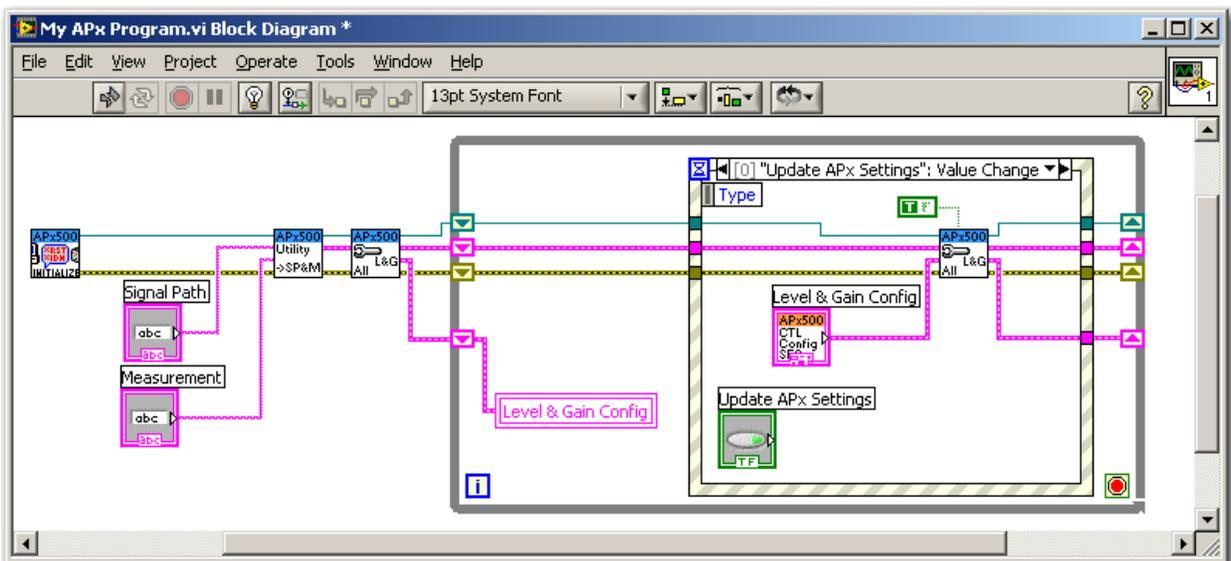

Figure 39
6. To make this VI function properly, we need to connect something to the input of the shift register created in step 5. Otherwise, the Level & Gain Config control will not be initialized properly. We want to initialize it to the values that are currently set in APx. Therefore, we need to *get* the values from APx. Add a copy of the *APx500 Config-Level & Gain Get/Set All* VI to the diagram outside the While loop and wire it as shown in Figure 39. Note that the nothing is wired to the Boolean Set input at the top of the VI. Hence the default value (Get) will be used, causing the VI to get all the current settings from APx and initialize the Level & Gain Config control to those values.